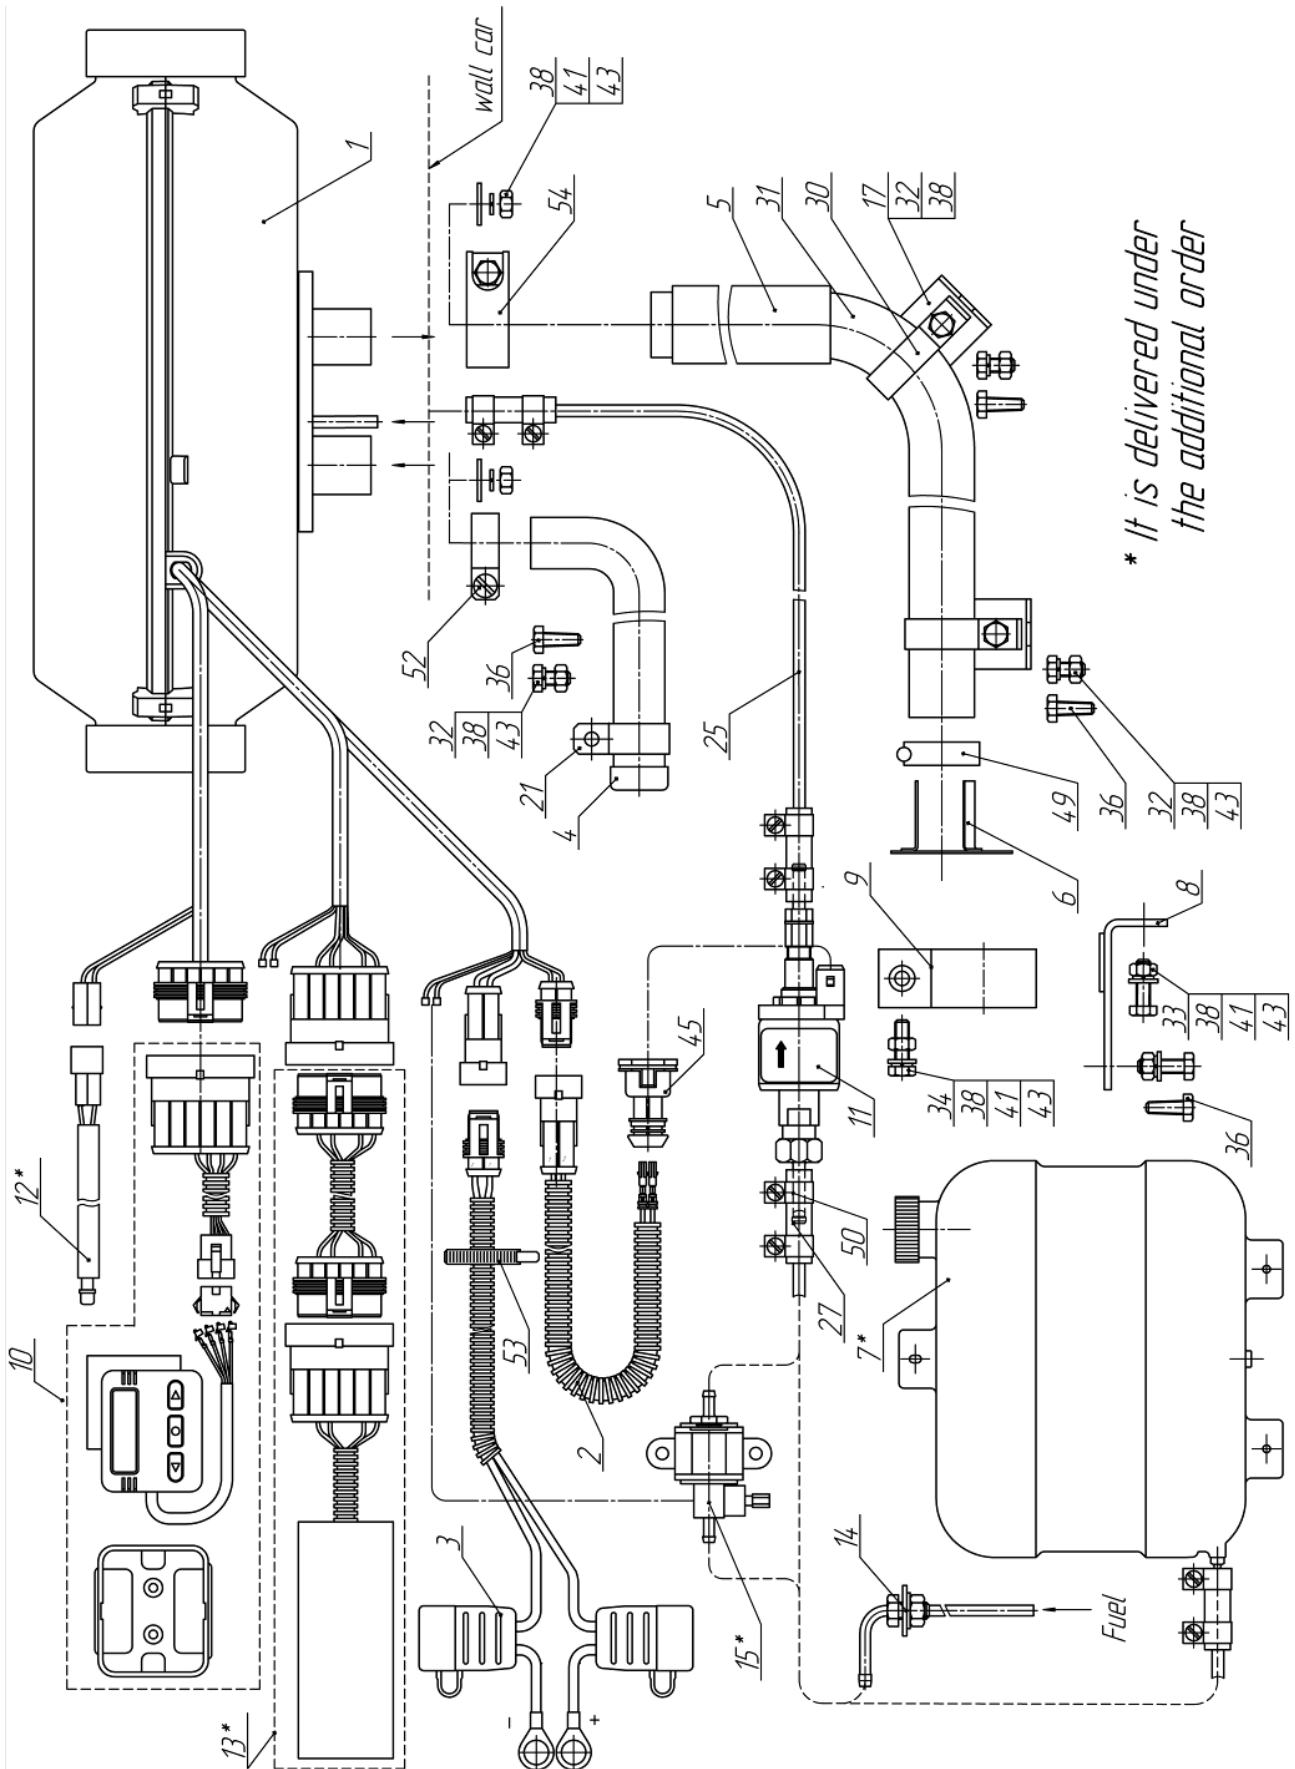

Figure 7.1 – Connection Diagram of Basic Heater Components
Set the modem at any convenient, clean place. Connect the antenna to the modem and bring antenna to the open space (for example, on the windshield ) . Connect the modem to the heater (according to fig. 4.1 and fig. 7.1 ) and test it .
See Figure 7.1 for scope of supply and connection diagram of basic heater components. For list of basic heater components, see Table 7.1.
Screen installation to make according to fig. 7.1.
When installing the exhaust pipe, be mindful of its high operating temperature. Cut the exhaust pipe (a flexible corrugated metal hose) to size. Fix the exhaust pipe in place using clamps and position it at a slight angle following the trajectory of gas flow. To protect some parts of the vehicle (electric wiring and other harness) from high temperatures, there must be heat insulation installed.( pos.3, fig.7.1)
Do not allow exhaust gas to affect the performance of vehicle components. Position the exhaust pipe outlet vent so as to prevent snow entering or choking the pipe and to allow incoming water to run off. At the vent of the exhaust pipe the screen is installed, this necessary for stable operation of the heater while working low idle. If this screen is not installed, install it according fig.7.1